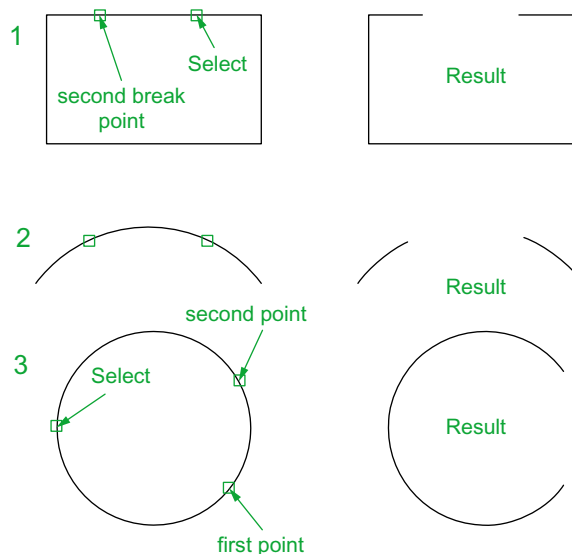

Fig. 5.36 Examples – **Break**
### Examples – Break (Fig. 5.36)
1. Construct the rectangle, arc and circle (Fig. 5.36).
The results are shown in Fig. 5.36.